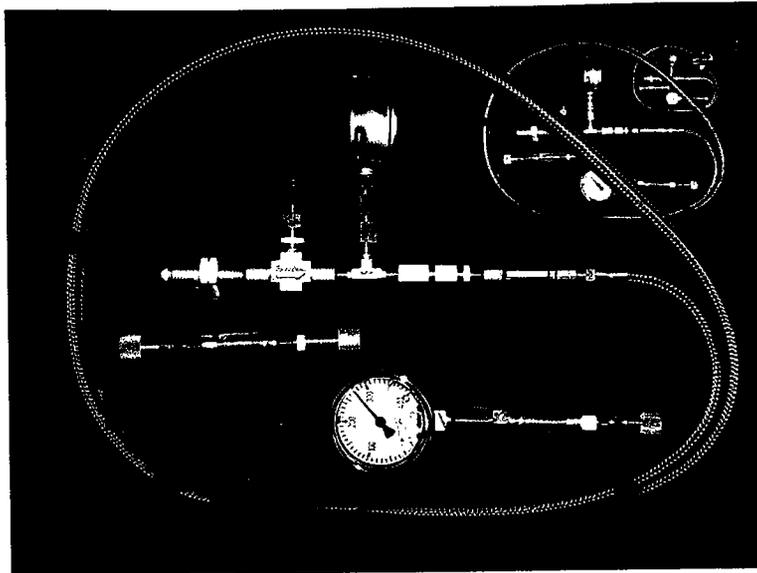

Figure 5 – Packing the charging manifold
4. Pack manifold for shipping back to Mar USA as shown in Figure 5.